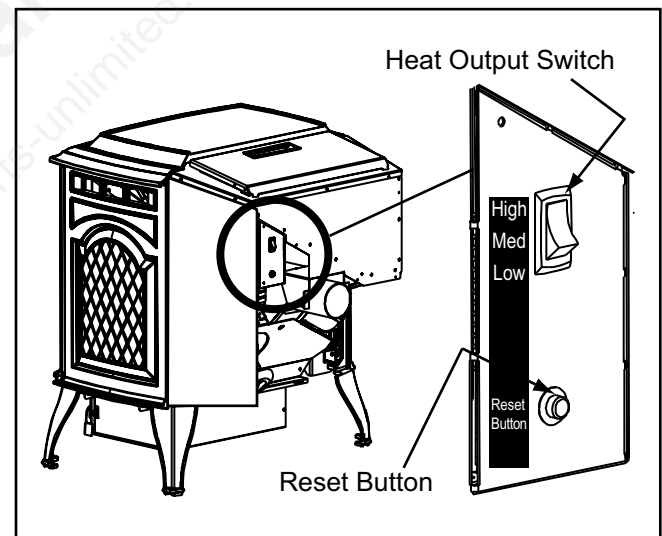
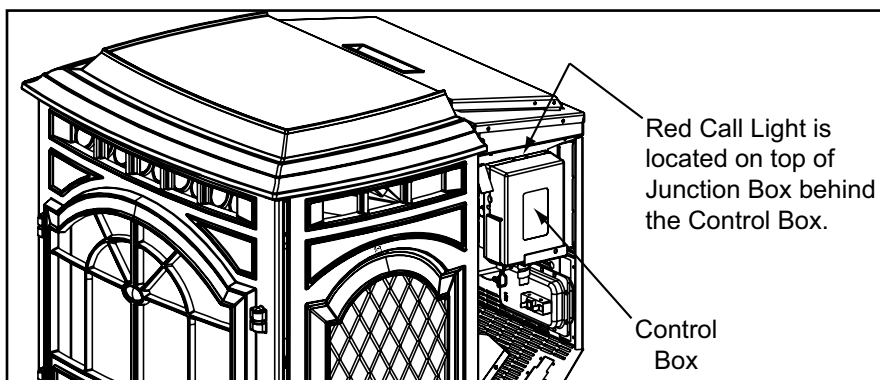

Figure 21.1
Figure 22.1
3. Locate the heat output control switch mounted on the back of the appliance in the upper right corner. **See Figure 21.1 on page 21.** Turn it to the "high" setting by pushing the top of the control switch in and then adjust the thermostat to its highest setting. Open the right side panel and the red call light located behind the control box will be on. **See Figure 22.1.** This indicates the thermostat is calling for heat.
3. Occasionally the appliance may run out of fuel and shut itself down. When this happens, the red call light will be on. (See Figure 22.1, page 22). To restart it, fill the hopper and press the reset button. (See Figure 21.1, page 21). When you press the reset button the red call light will go out. Release the button and the light will come back on. You should see a fire shortly. If not, follow the instructions on page 22, of "Starting Your First Fire".